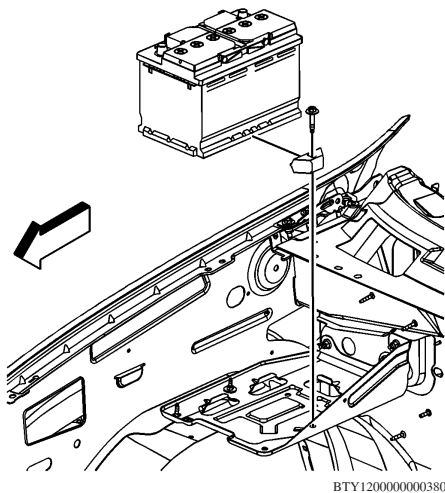

Fig. 3 Battery removal
9. Remove battery hold down retainer bolt and retainer, **Fig. 3**.
2. Install battery hold down retainer and bolt, **Fig. 3**. **Torque** bolt to 18 ft. lbs.